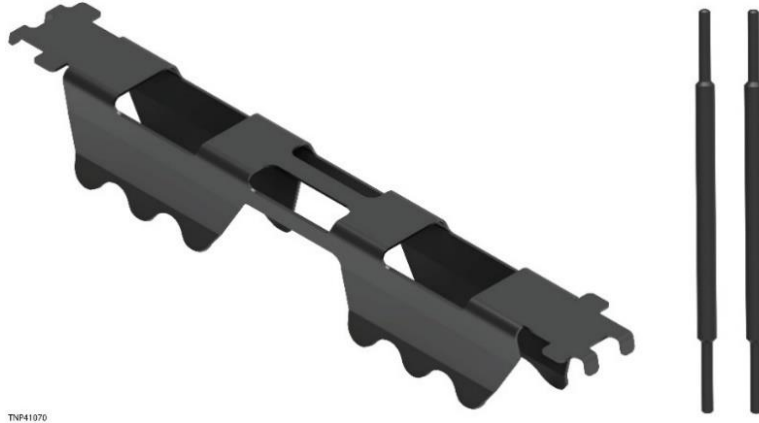

Figure 180. Memory Replacement Tools and Retention Clip
- Memory replacement tool and retention clip (see Figure 180)